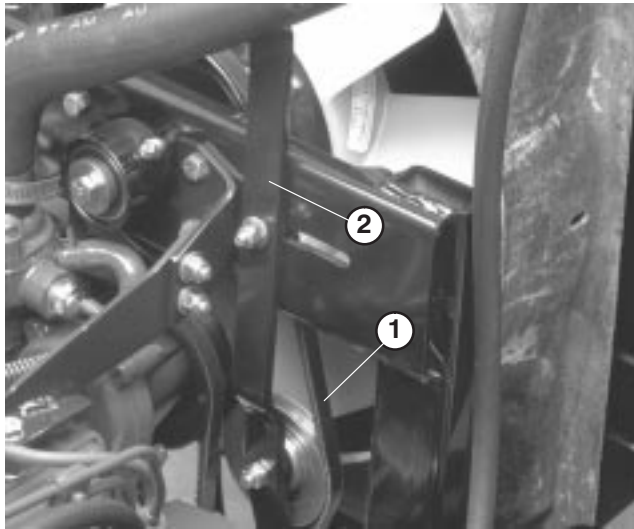

Figure 58
- Loosen locknut on belt tensioner lever (Fig. 58).